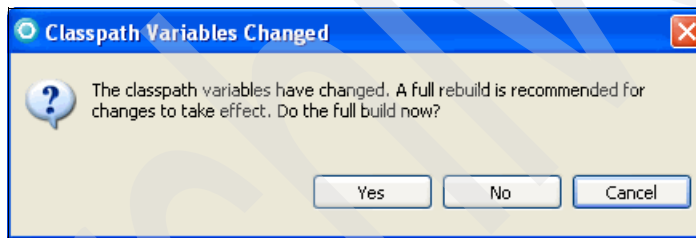

Figure 9-11 Classpath Variables Changed window
6. When prompted by the Classpath Variables Changed window (Figure 9-11), click **Yes** for a full rebuild.